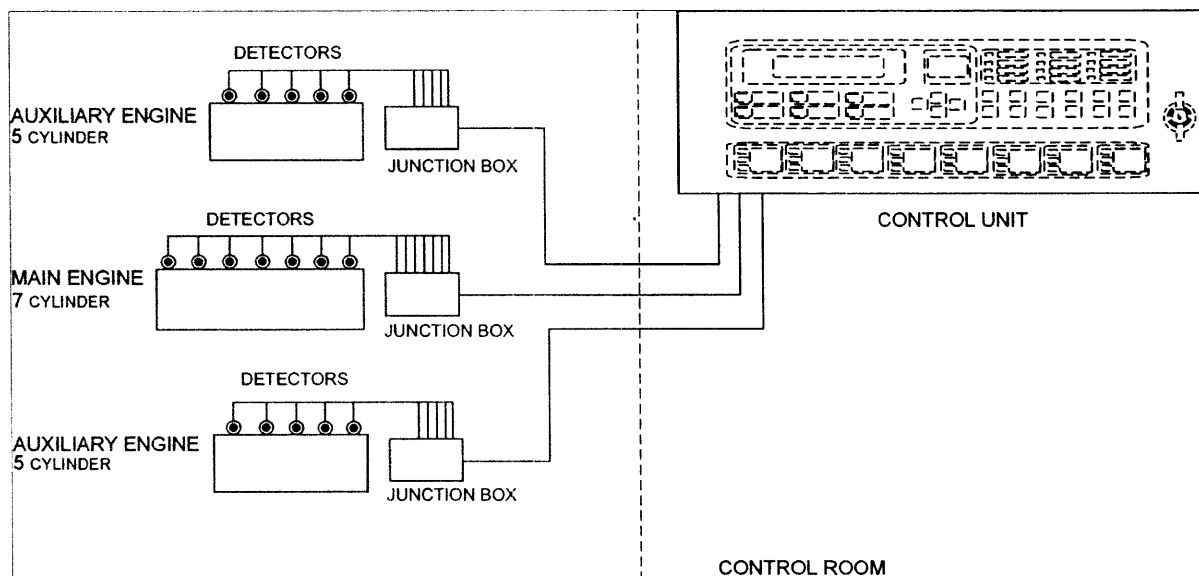

Figure 2: Oil Mist Detection System
1.3 DESCRIPTION (Refer to Figure 2)